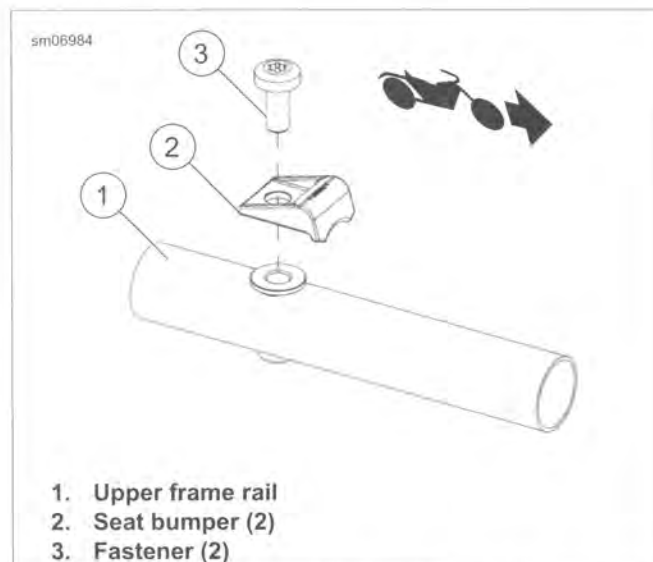

Figure 2-113. Seat Bumper Installation
- See Figure 2-113. Install a seat bumper to each upper frame rail (1), in the orientation shown (arrows forward).
- Secure with fastener (3). Tighten to 32-36 ft-lbs (43.4-48.8 Nm).